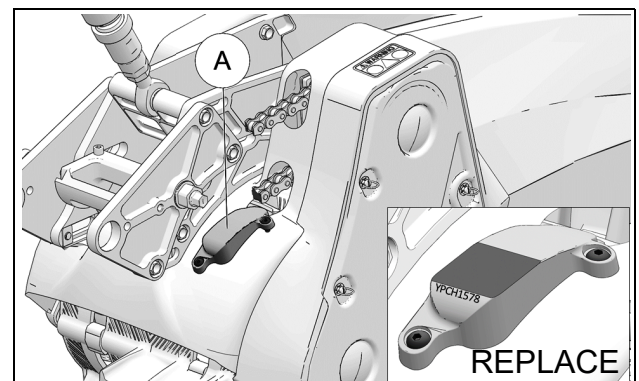

Figure 51
Verify wear on Chain guard (A). Replace guard if wear reaches the part number molded at the front. See Figure 51.